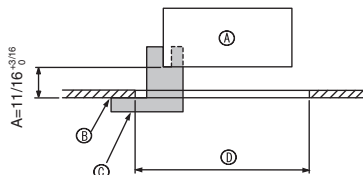

Fig. 9-2
9.2. Preparing to attach the grille (Fig. 9-2)
- With the gauge ③ supplied with this kit, adjust and check the positioning of the unit relative to the ceiling. If the unit is not properly positioned relative to the ceiling, it may allow air leaks or cause condensation to collect.
- Ⓒ Gauge ③ (inserted into the unit)